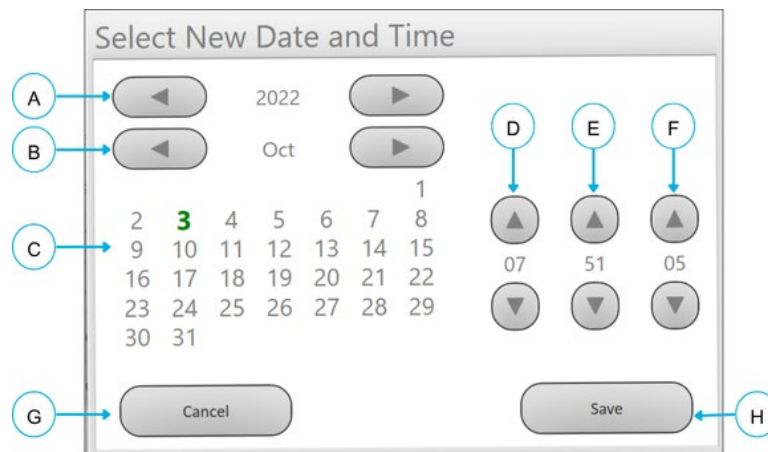

Figure 7-15: Select New Date and Time Window
The **Set Date/Time** option allows the user to set or update the Generator's internal date and time (**Figure 7-15**).
- The Select New Date and Time window appears (**Figure 7-15**)
- **Year (A)**: Left/right arrows adjust the year.
- **Month (B)**: Left/right arrows adjust the month.
- **Day (C)**: Select the day from the calendar. The selected day is highlighted in bold green.